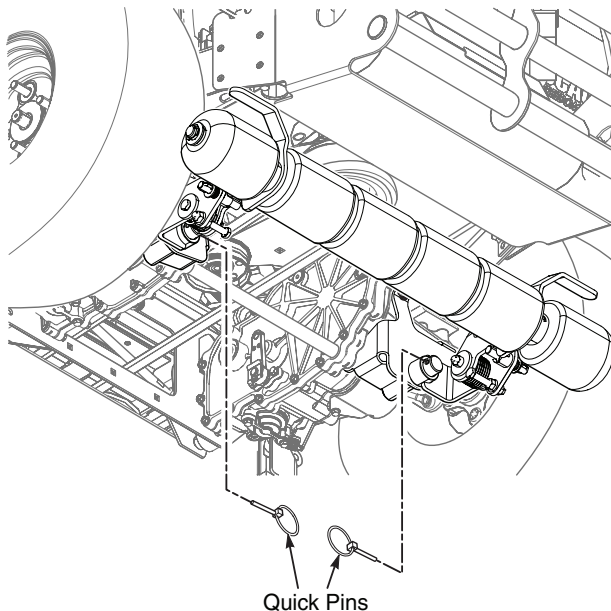

Figure 2-4. Install Quick Pins
9. Secure the Striper Assembly to the machine with the Quick Pins supplied. See Figure 2-4.